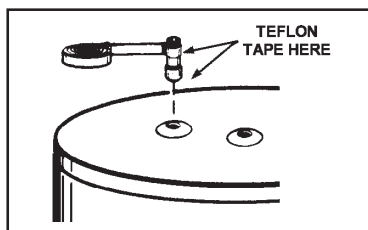

FIGURE 16.
4. Wrap the 3/4" nipples with teflon tape or pipe joint compound and screw into the water where it's marked "HOT" and "COLD", wrap the other ends of nipples with teflon tape or pipe joint compound and screw one end of each flexible water connector onto each nipple, see Figure 16.